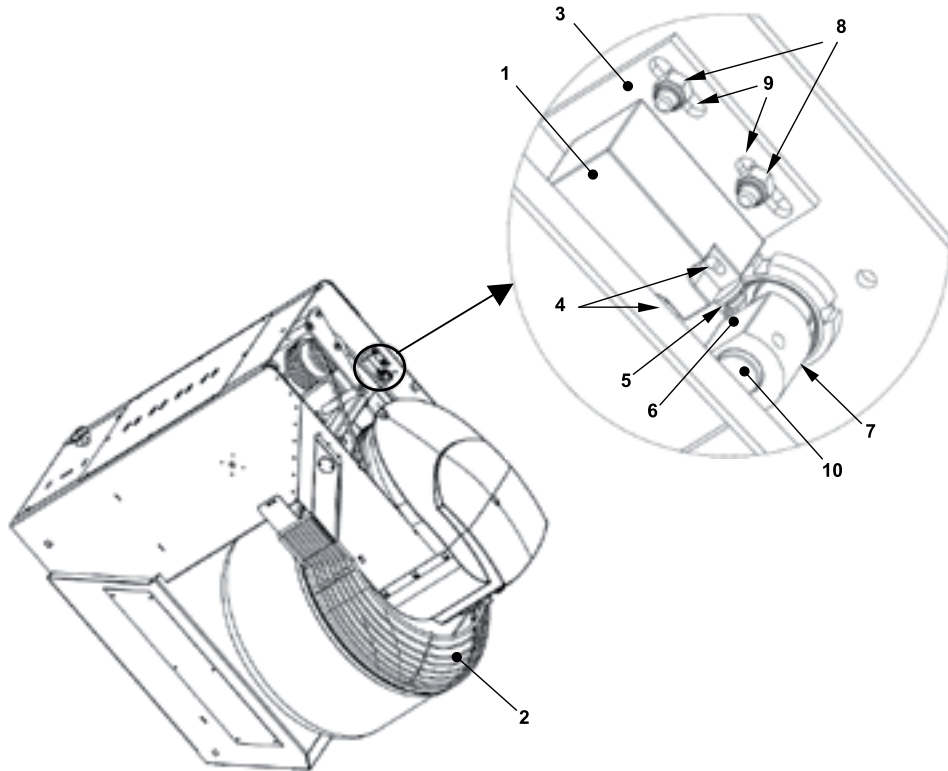

Figure 20 - Safety Microswitch of the bowl cover
Look at Figure 20, the safety micro pos. 1 of the cover pos. 2 is mounted to the bracket pos. 3 with two screws pos. 4 (they are not shown in the picture but are described here below). If you ever come to replace this micro switch, all you need to do is disconnect the wires and remove the screws pos. 4. Strictly have a licensed electrician who is familiar with the mixer electrics connect the new micro pos. 1. The switch should operate with normally closed contacts (the lifting of the guard forces the opening of contacts by the plate pos. 6). The position of the actuator pos. 5 of the microswitch to the plate pos. 6 of the round pin pos. 7 must be such that the opening of the contact (and therefore the stop command) occurs when the distance between the lower edge of the cover pos. 2 and the upper edge of the bowl is less than 75 mm. The new switch must have physical characteristics and performance equal to or better than the old one; in particular, the same